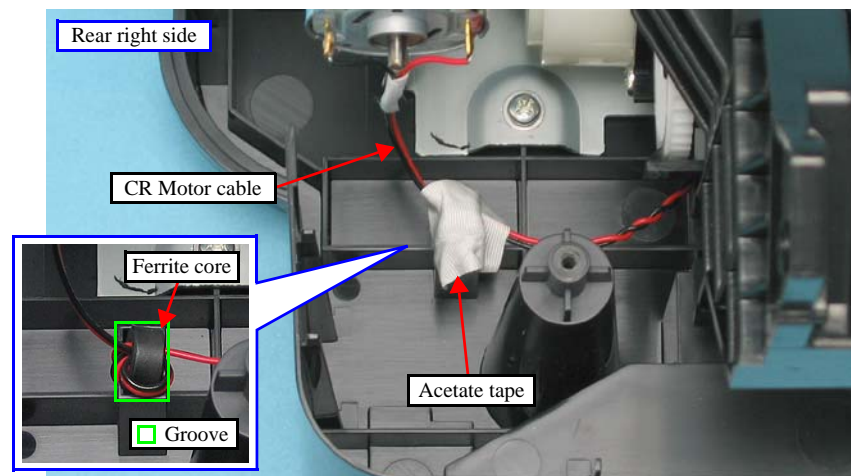

Figure 8-18. Removing the Printer Mechanism (1)
- When installing the Printer Mechanism, put the ferrite core of the CR Motor Cable in the groove of the Lower Housing, and secure it with acetate tape. (See Figure 8-18.)